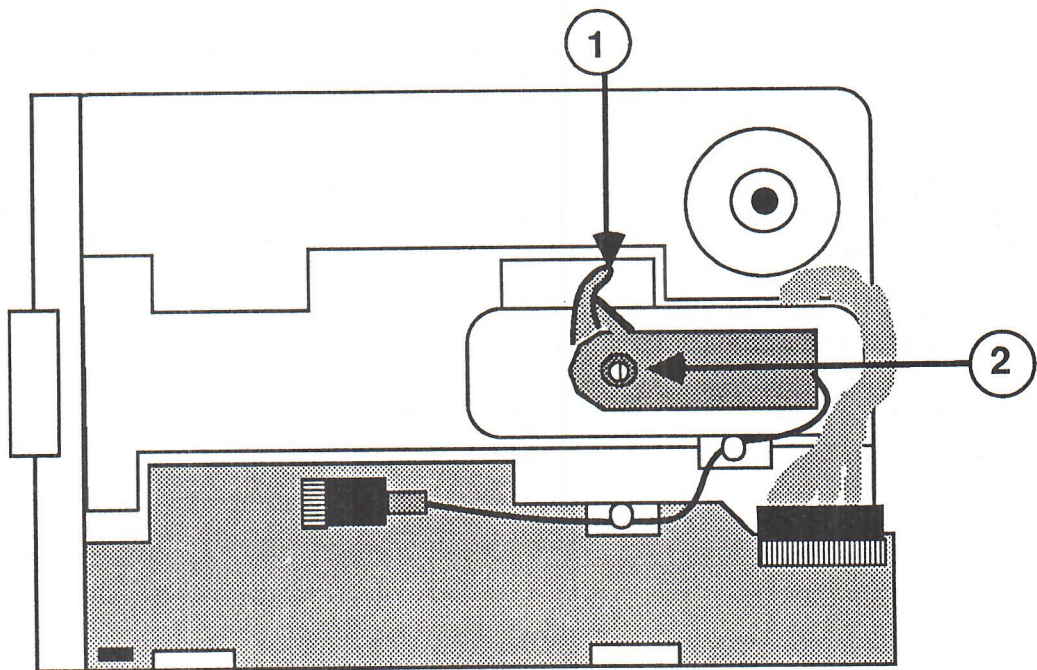

FIGURE 8
4. Lift up the head load arm (see Figure 8, #1). If the head load button (see Figure 8, #2) is worn or dirty, squeeze the top part of the load button with small needlenose pliers and let the button drop down.